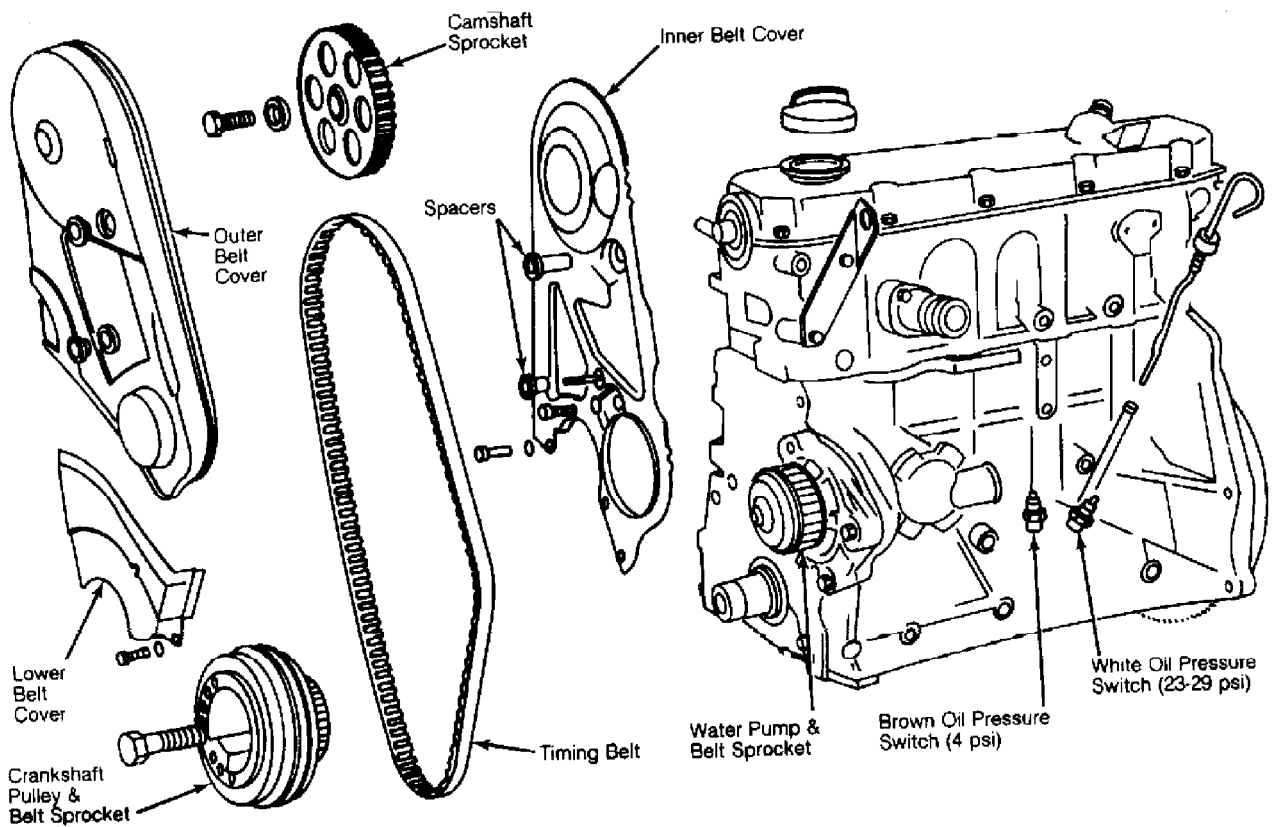

Fig. 1: Timing Belt, Sprockets & Covers
4) Remove power steering pump and position aside with hoses connected. Remove camshaft cover and timing belt cover. See Fig. 1. Loosen water pump bolts to relieve tension on timing belt. Remove timing belt. Remove water pump to replace "O" ring.
1) Remove upper radiator cover. Remove drive belts. Remove power steering pump with pressure hoses connected. Position pump aside. Remove camshaft cover and outer timing belt covers. See Fig. 1.